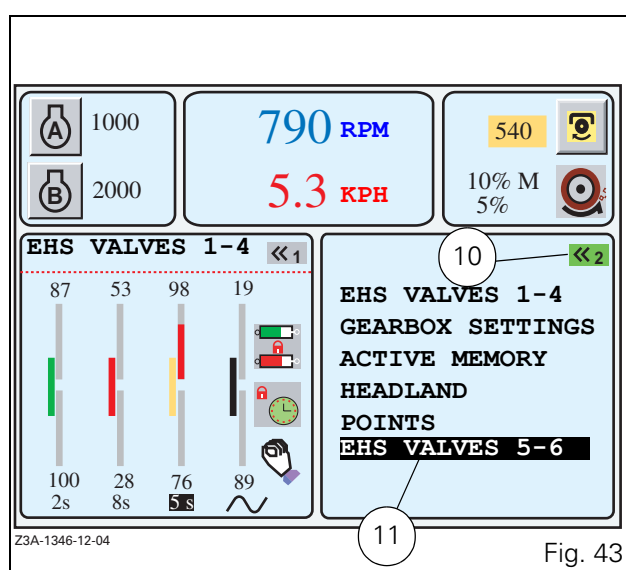

Fig. 43
- To select the EHS VALVES 5-6 menu, select the application with the encoder. The selected application is displayed in a black frame (11 Fig. 43).